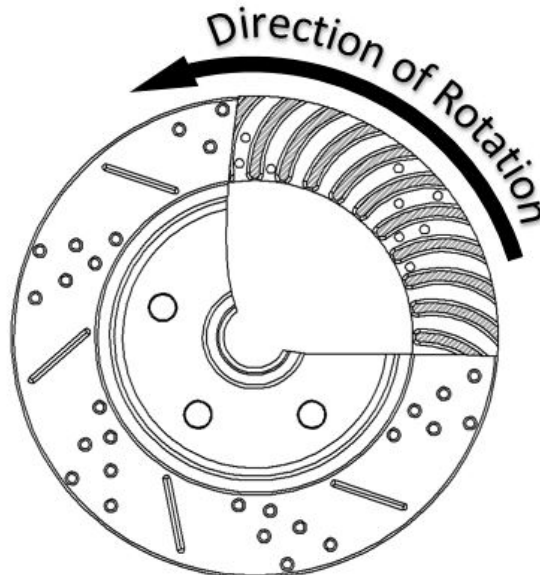
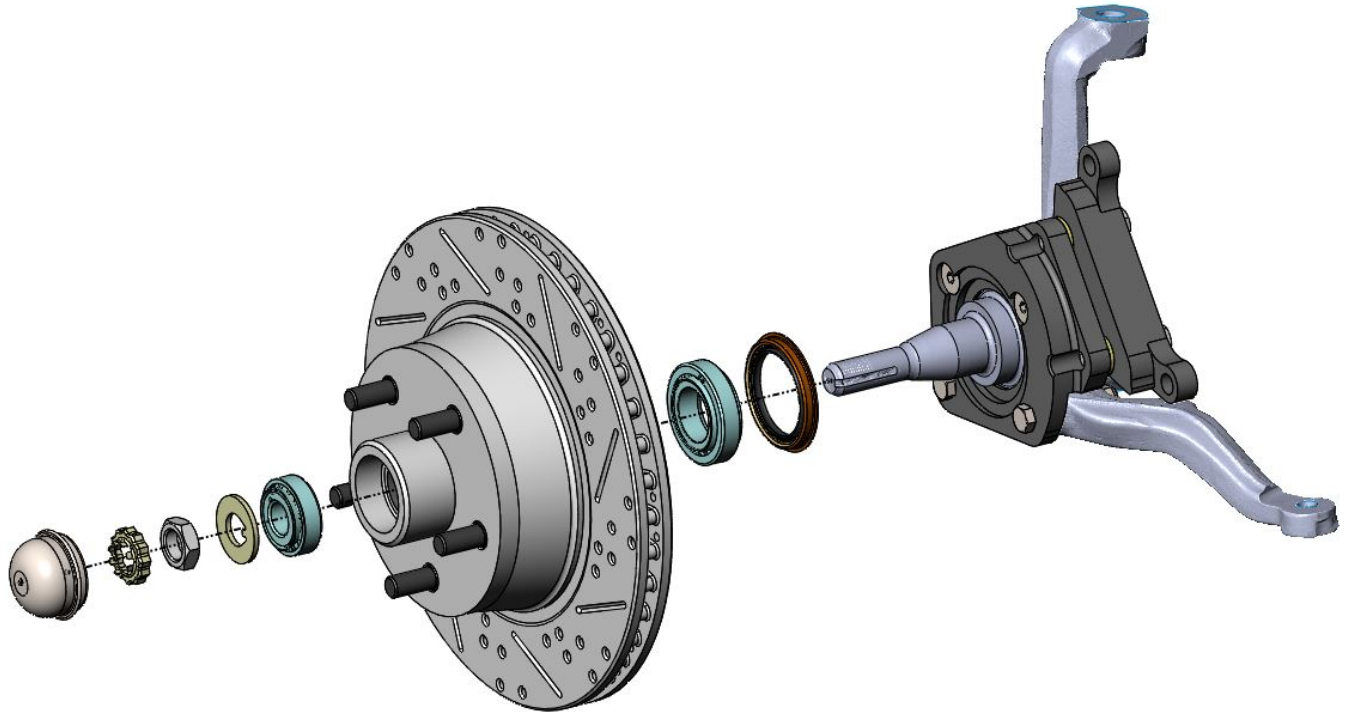

Figure 4 – Direction of Rotor Rotation
Figure 5 – Rotor Installation (Driver Side Shown)
7. With the brackets assembled on the spindle, slide the rotor onto the spindle. The new rotors come with premium bearings pre-installed and packed with Red Line Synthetic wheel bearing grease. **NOTE:** It is not necessary to add more grease. Apply a small amount of grease to the hub sealing surface and install the rotor assembly. Using the new castle nut along with the nut retainer, tighten the nut to 5-10 ft/lbs. Loosen the nut and tighten the nut again using the same 5-10 ft/lbs. Do this a couple of times spinning the rotor to fully seat the wheel bearings onto the spindle. Loosen the nut a final time and re-tighten to remove all play. Tighten approximately an additional 1/16th of a turn to give the appropriate pre-load and line up the cotter pin hole. Install the cotter pin and dust cap. See Figure 4 below for correct placement of left and right rotors and Figure 5 on the next page for additional information on the rotor installation.